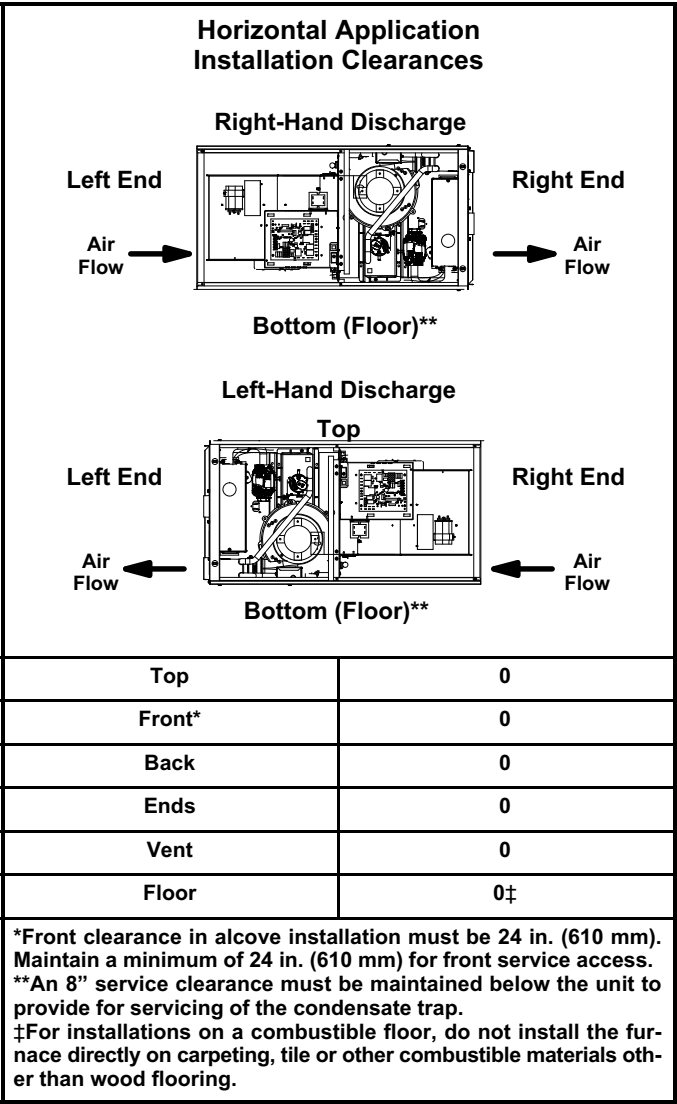

FIGURE 17
The EL296UHE furnace can be installed in horizontal applications with either right- or left-hand air discharge. Refer to figure 17 for clearances in horizontal applications.
- 1 - Select location for unit keeping in mind service and other necessary clearances. See figure 17.